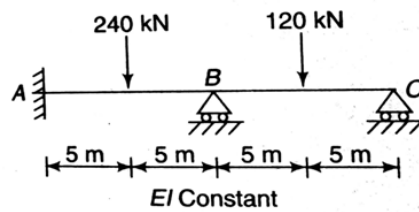

Figure 9
7. Analyse the continuous beam shown in Figure 9 using stiffness method. [14 M]